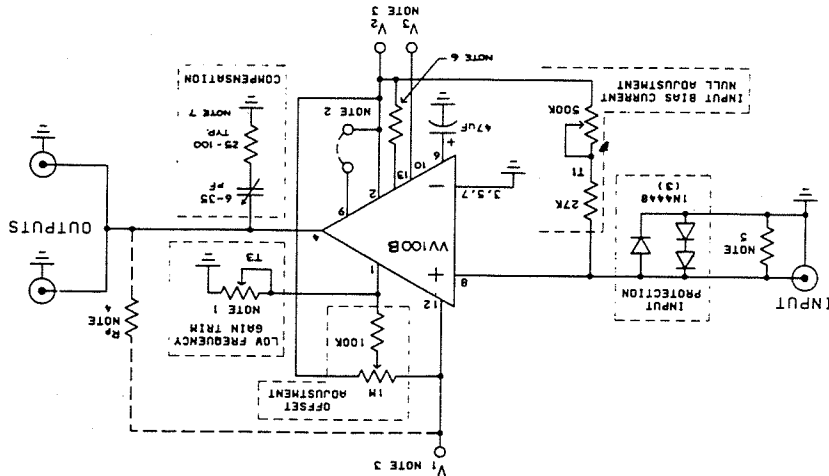

Figure 1
6. See Figure 1.
Figure 1 shows a typical application circuit for the VV100B and is the circuit on the LeCroy VV100BTB amplifier. Here input trim T1 is accomplished by the series combination of a 27 k Ω resistor and a 500 k Ω potentiometer. Trim T2 is set by the 1 M Ω potentiometer and series 100 k Ω fixed resistor. A fixed resistor to ground sets the low frequency gain trim (T3). High frequency compensation is set by the 51 Ω , 6-35 pF combination.
Proper termination and protection must be supplied to the input. In most cases, input to the amplifier will be via 50 Ω cable. In this case, a 50 Ω resistor from the input (pin 8) to ground should be employed. In addition, three 1N4448 or equivalent diodes to ground as shown in Figure 1 will provide overload protection. The input DC level must be trimmed to zero by a trim resistor (T1) to a negative supply. Where the best DC stability is required, this supply should be regulated. Note that fluctuations in the input offset will appear at the output amplified 10 fold.
A current of about 30 mA from +6 V must be supplied at pin 12. In addition, two negative supplies, V_2 and V_3 , are recommended. V_2 (pin 2) requirement is 20 mA at a voltage between -6 and -12 V. V_3 (pin 10) is to be set 12 V more negative than V_2 . For example, with V_2 set to -12 V, V_3 should be -24 V. The VV100B requires about 8 mA from the V_3 supply. Proper bypass requires at least 6.8 μ F tantalum capacitors to ground from pins 2, 12, (and 10 if three voltages are used) and 47 μ F on pin 6. Minimum length leads should be employed. Be sure to observe proper polarity. See Figure 1. Model VV100B can be operated with only two proper power supplies at the expense of risetime and linearity. For this configuration, tie pin 2 to pin 9, set $V_2 = -6$ V to -12 V, V_3 is omitted and $V_1 = +6$ V.
The Lecroy Model VV100B provides the high bandwidth circuitry, shown in Figure 1, in a ready-to-use format. The 3 inch x 3 inch x 1.6 inch enclosure size of the device allows one to use the Model VV100B in locations too small for many fast amplifiers. The units may be purchased with coaxial cable connectors. The trim and compensation variables are factory adjusted for optimum high-speed performance.